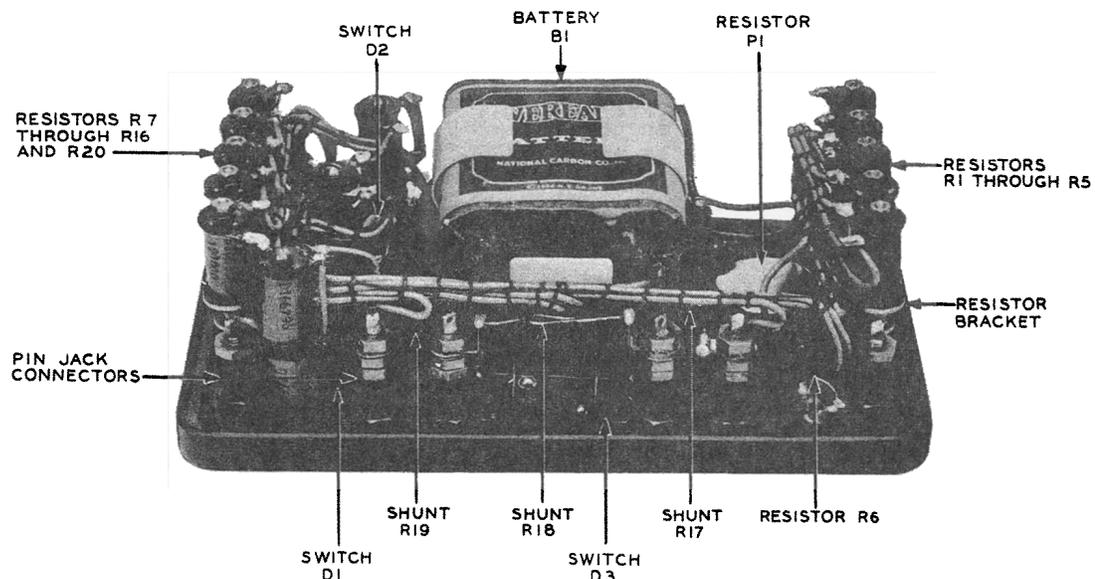

Fig. 10 - Location of Parts of M9B Meter
5.02 All apparatus parts are attached to the underside of the top panel of the meter (Fig. 10). This panel may be removed by taking out the four screws which attach it to the meter case. The edges of the panel and case may be coated with oil, or a rubber gasket may be provided in order to moisture-seal the meter. If a coating of oil is used, take care not to wipe it off when removing the top panel or making repairs. The oil used for this purpose and the rubber gasket are listed in Part 6.